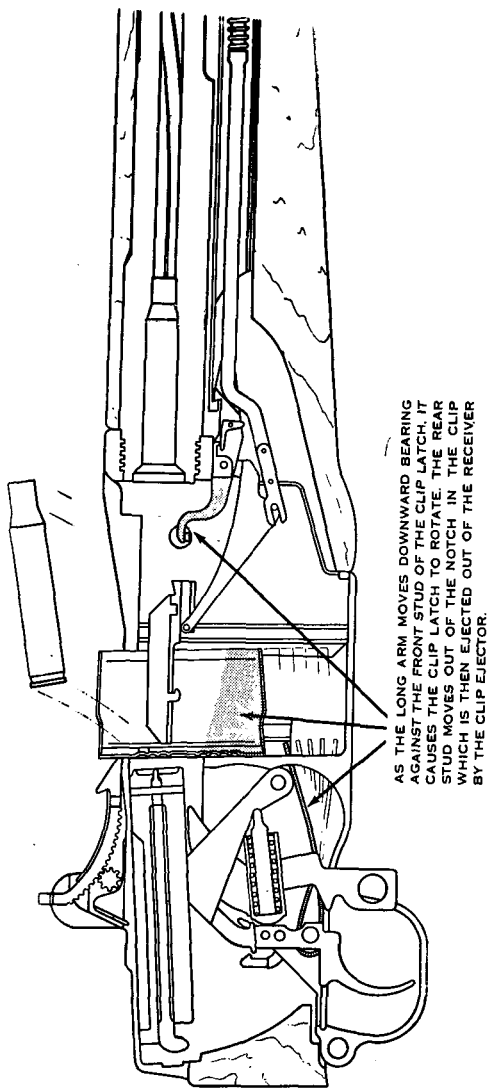

Figure 46. Action following the firing of the last round.
b. While the last round is in the chamber, the follower is against the bottom of the bolt. When the last round is fired (fig. 46), the bolt comes to the rear and the follower, freed to this obstruction, is moved all the way up in the receiver by the action of the operating rod spring pushing the follower rod which in turn pushes the follower arm and follower. At the same time the hump of the follower rod contacts the 45° camming surface of the operating rod catch and pushes the catch up toward the barrel.